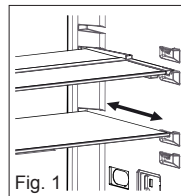

Fig. 1
- To bring the shelf to its original position, pull it towards you. (Fig. 1)